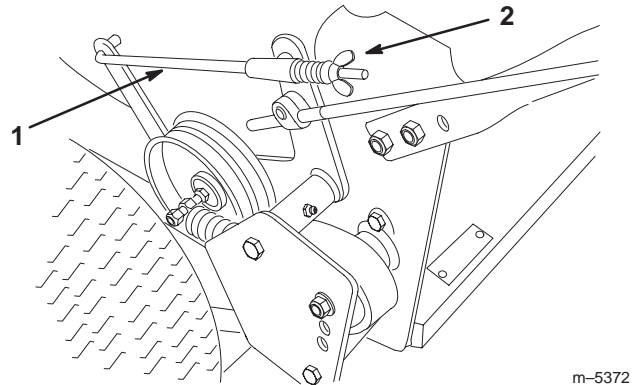

Figure 39
- To adjust the brakes, rotate the wing nuts on the brake rods (Fig. 39). Rotate the wing nuts clockwise to tighten the brakes; rotate them counterclockwise to loosen them.